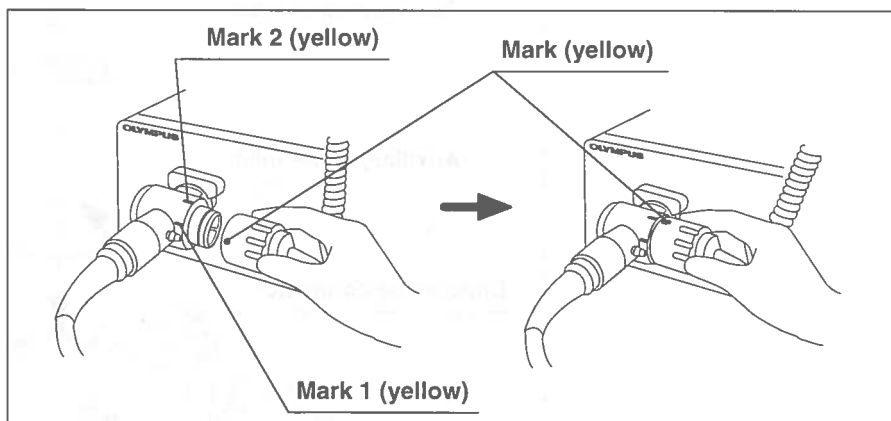

Figure 3.16
4. Align the mark on the videoscope cable EXERA or the videoscope cable 100 with mark 1 on the endoscope connector and push it in until it stops (see Figure 3.16).
5. Turn the connector of the videoscope cable clockwise until it stops (see Figure 3.16).